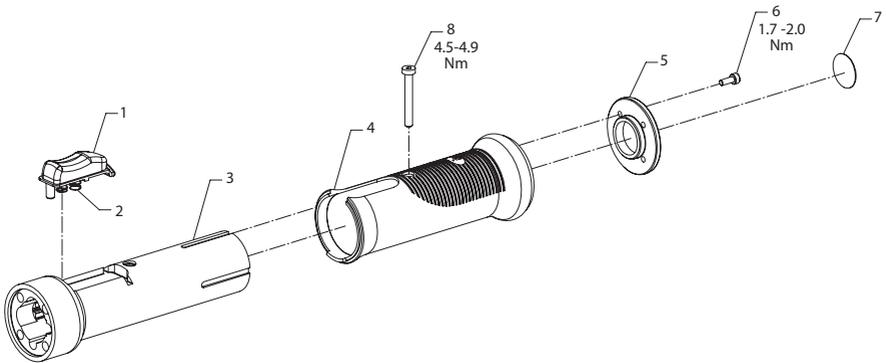

Figure 12
- Assemble Trigger Spring (2) to Trigger Switch (1) through molded guide pillar.
- Insert the above assembly into the slot provided in Handle Grip Housing (3).
- Insert Handle Grip (4) over the above assembly such that it retains Trigger Switch (1) from jumping out of Handle Grip Housing (3).
- Assemble End Cap (5) into the rear end piloting diameter of Handle Grip Housing (3).
- Now clamp the above assembly with Screw (6) with a torque of 1.7 Nm to 2.0 Nm.
- Insert the PCB assembly (not shown in the above Figure 12) into the slot of Handle Grip Housing (3), (See Figure 2 for reference).
- Insert Reliever (1) into the hole provided in Handle Steel Ball Assembly (2).
- Route the wire Plug - Turck RSC 8T-\* (3) through the hole in Handle Steel Ball Assembly (2), Reliever (1) and Slide Switch Housing Assembly (4), Screw terminating it on Main PCB for Handle (5) Terminals as per color coding on PCB.
- Screw terminate the Wires from Small Board (8) coming from Slide Switch Housing Assembly (4) to the terminal block of Main PCB for Handle (5) as per the color coding on main PCB.
- Use one or more cable ties to secure Wires from Small Board (8) on main PCB.
- Now insert Main PCB for Handle (5) into the slot provided in Trigger Handle Assembly (6).
- Secure PCB inside handle grip housing with Fastener Bolt (8) shown in Figure 12.
- Assemble Handle Steel Ball Assembly (2), Slide Switch Housing Assembly (4) and Trigger Handle Assembly (6) with Cap Head Screw (7), with thread locking compound.
- To change orientation of slide switch from inline to perpendicular w.r.t trigger switch, keep Main PCB for Handle (5) and Trigger Handle Assembly (6) in same orientation and rotate Slide Switch Housing Assembly (4) and Handle Steel Ball Assembly (2) to 90° before making final assembly with 4 No. of M6 fasteners 7.